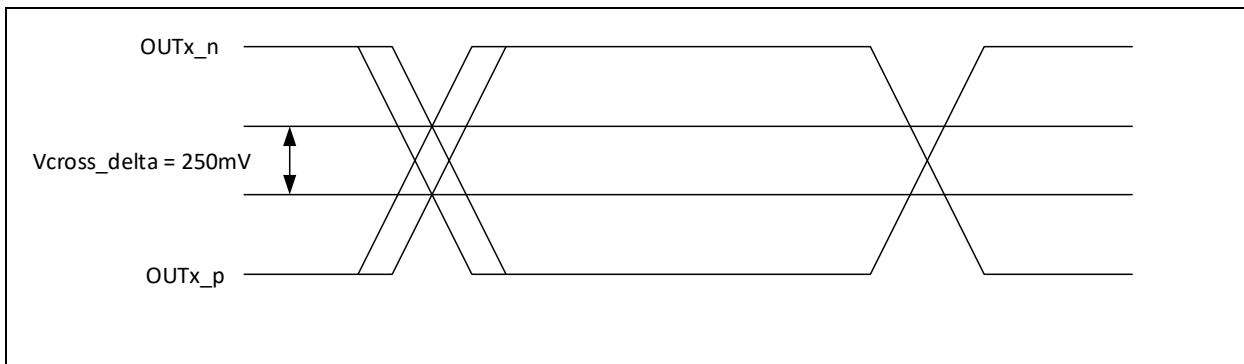

Figure 16. Single-Ended Measurement Points for Delta Cross Point
(9) Defined as the total variation of all crossing voltages of Rising CK and Falling CK# This is the maximum allowed variance in V_{CROSS} for any particular system. See Figure 16.
(10) The PPM requirement from PCIe Express Base Specification, Revision 4.0 is related to clock generation devices. This requirement is not applicable to buffers because buffer's output frequency accuracy is identical to the frequency accuracy of the source driving the buffer.